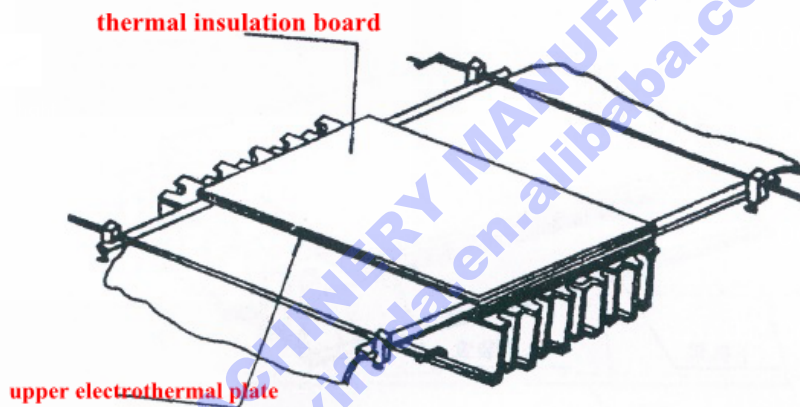

Fig. 8
(4) On the area of the belt joint part which fit the lower electrothermal plate, heat resistant plastic film or talcum powder are paved. And then the upper electrothermal plate and thermal insulation plate are placed on it in sequence, as shown in figure 8.